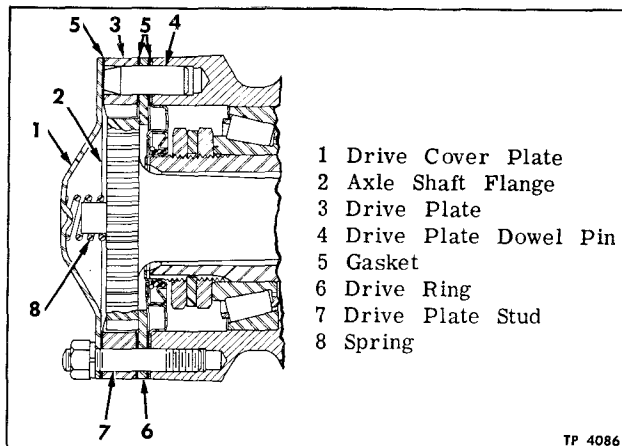

Figure 1—Axle Shaft and Drive Plate Installation
Axle shafts are full floating type. Drive flange at outer ends have external teeth which mesh with similar internal teeth on hub drive plate. Drive plate is doweled to hub with dowel pins and held in place, together with plate cover, with ten hub studs and nuts as illustrated in figure 1.
AXLE SHAFT DRIVE PLATE AND COVER (Refer to Figure 1)
Rear axle shafts are installed as shown in figure 1. Drive plate (3) and cover plate (1) are held on hub with ten drive studs and nuts and dowel pins (4). Three gaskets (5), to prevent lubricant leaks, are used between parts as shown.
AXLE SHAFT REMOVAL (Fig. 1)